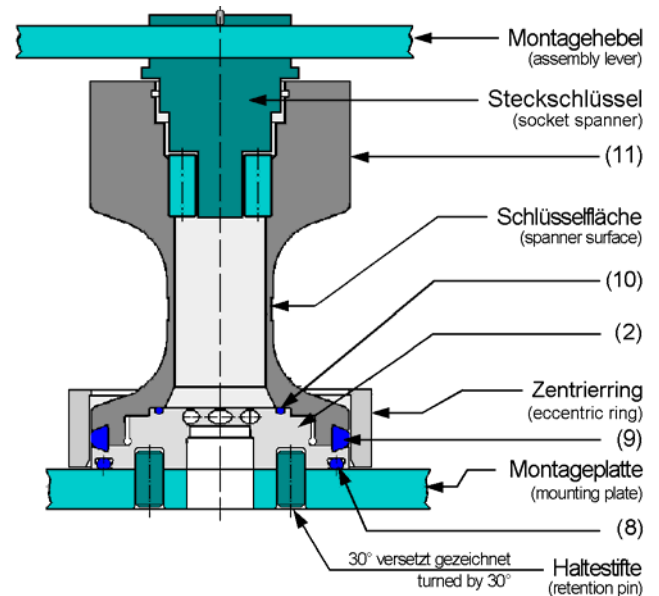
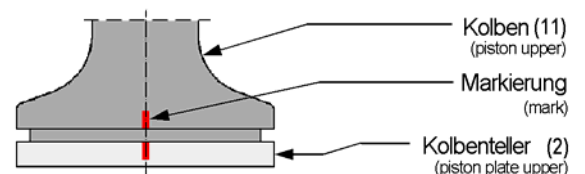

Fig. 4
Fig. 5
- Unscrew the lower retaining clamp (30).
- Remove the housing bottom (1).
- Unscrew the lower piston (4) from the upper piston (11).
- Take off the split washer (12).
- Unscrew hexagon screw (18)(4x).
- Push lantern (17) in direction "X" until the hole (C) is freely visible.
- Unscrew the piston (11) with a headed wrench (SW), counter with a hook wrench at the hole (C).
- Push the insert (15) off of the piston (11) away from the valve disc.
- According to execution position the piston (11) about the holes (B)(2x) (in the piston plate) with the retention pin (Fig.4).
- Unscrew the piston (11) with the assembly lever or headed wrench (SW) from the upper piston plate (2).
- Remove the seal (9) and the O-Ring (8) and (10).
- Dismount the valve lift stop (19) in direction "X".
- Screw in piston plate (2) without seal to the metal limit stop in the piston (11) and make a coloured mark (Fig. 5).
- Screw out the piston plate (2) of the piston (11).
- Push the seal (9) into the piston (11) and screw the piston plate (2) into the piston (11) by hand.
- Position the eccentric ring on the seal (9) (Fig. 4).
- Clamp the mounting plate into the vice and fix the piston plate (2) (see Fig. 4).
- Position the mounting lever (see Fig. 4) and screw the piston (11) up to the final limit mark (Fig.5).